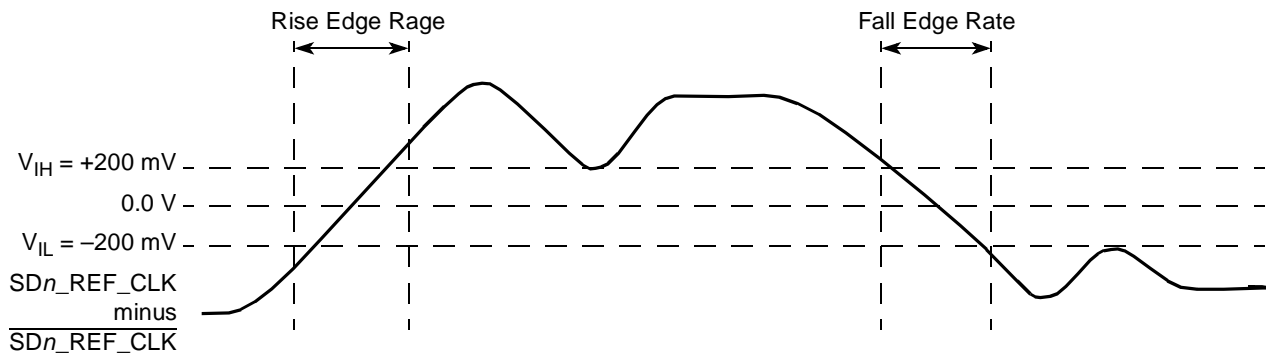

Figure 53. Differential Measurement Points for Rise and Fall Time
3. Measured from -200 mV to +200 mV on the differential waveform (derived from SDn_REF_CLK minus SDn_REF_CLK). The signal must be monotonic through the measurement region for rise and fall time. The 400 mV measurement window is centered on the differential zero crossing. See Figure 53.